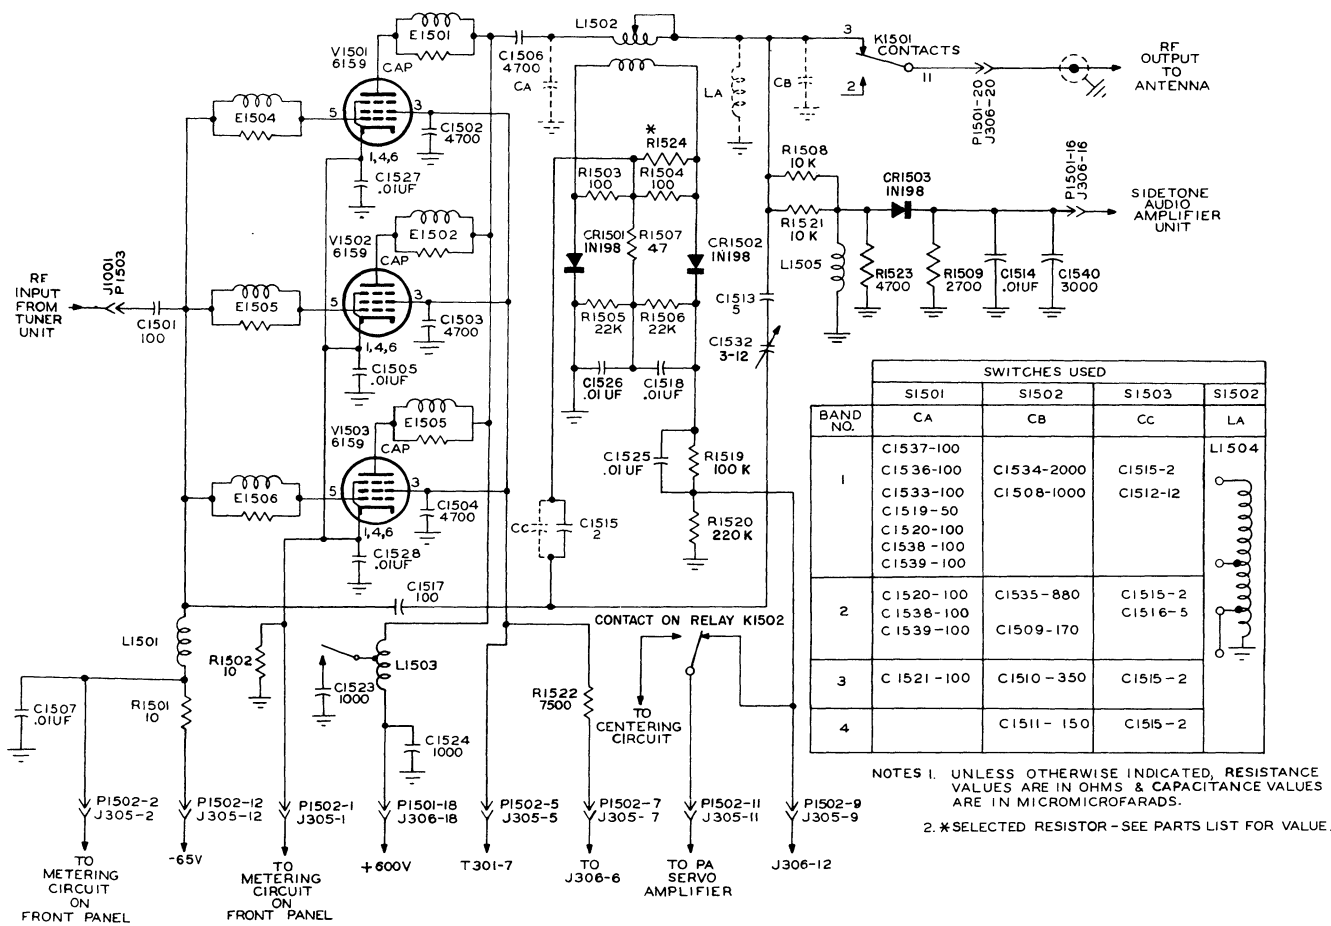

Figure 4-23. Power Amplifier, Simplified Schematic Diagram
4.9.4.1 R-F CIRCUITS. Refer to figure 4-23. Three type 6159 tubes (V1501-3) are operated in parallel to obtain the required r-f output power. These stages shunt feed a pi network in the plate circuit. The r-f input signal is coupled from the tuner unit through a plug and jack assembly (J1001 and P1503) and through capacitor C1501 to the parallel-connected grid circuits of the three output tubes. Each grid lead contains a
parasitic suppressor (E1504 through E1506) as does each plate lead (E1501 through E1503). Negative grid bias is applied through resistor R1501 and inductance L1501 to the grids. Capacitor C1507 is the grid return bypass capacitor. Resistor R1501 is included to provide a source of voltage for metering purposes. The meter is calibrated in terms of milliamperes of grid current. The cathode circuit uses a similar resistor (R1502) for metering cathode current. Each cathode is bypassed directly at the cathode pin of the tube socket by a capacitor (C1527, C1505, and C1528). Output signal is developed across plate load inductor L1503. On the three highest bands, a portion of L1503 is bypassed to ground through the operation of switch S1504 and capacitor C1523. Output voltage developed across L1503 is coupled through capacitor C1506 to a pi network consisting of C_A , C_B , and L_A (refer to figure 4-23 for values of C_A , C_B , and L_A in each band). The r-f output is applied then to the antenna through contacts of relay K1501 and contacts of plug P1501 and receptacle J306. Capacitors C1513, C1532, and C1517 are series-connected neutralizing capacitors.